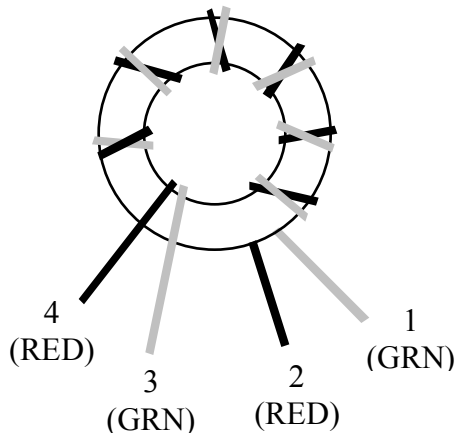

Figure 19
Separate T3's leads as shown in Figure 19. The numbers on the leads correspond to numbered pads on T3's PC board outline.
- Install T3 vertically on the PC board as indicated by its outline (near the microcontroller, U1). Insert the red and green leads into their numbered holes as shown in Figure 19. Pull the leads taut on the bottom, then solder.